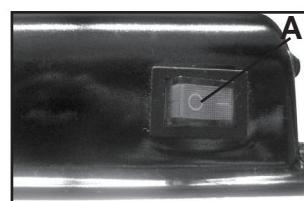

FIGURE 6
ON/AUTO-OFF SWITCH (A) FIG.6. Turn this switch ON by lowering lever and lift to turn compressor OFF.